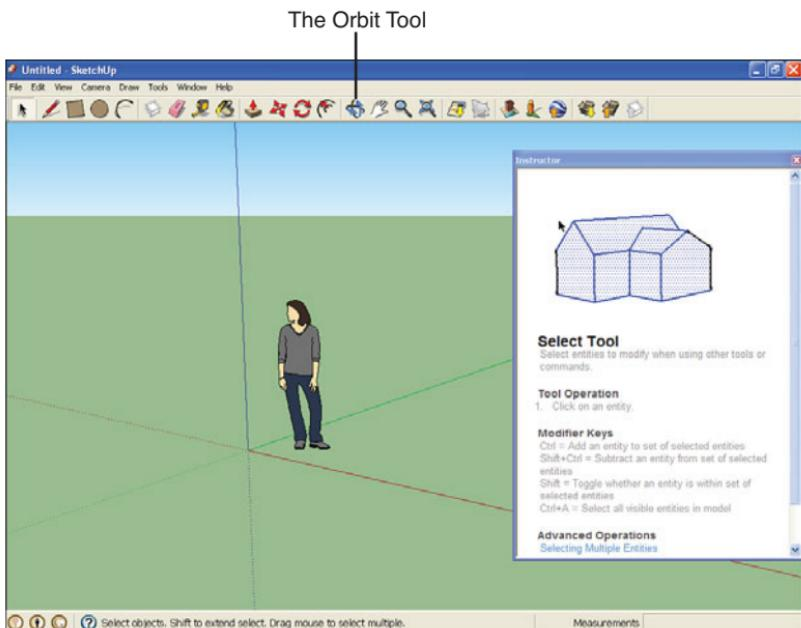

FIGURE 2.9 Starting SketchUp and selecting the Orbit tool.
2. Click the **Start Using SketchUp** button. This opens SketchUp using the Simple Template from the previous task as the default template, as shown in Figure 2.9.
3. Click the **Orbit tool** in the toolbar (as shown in Figure 2.9).